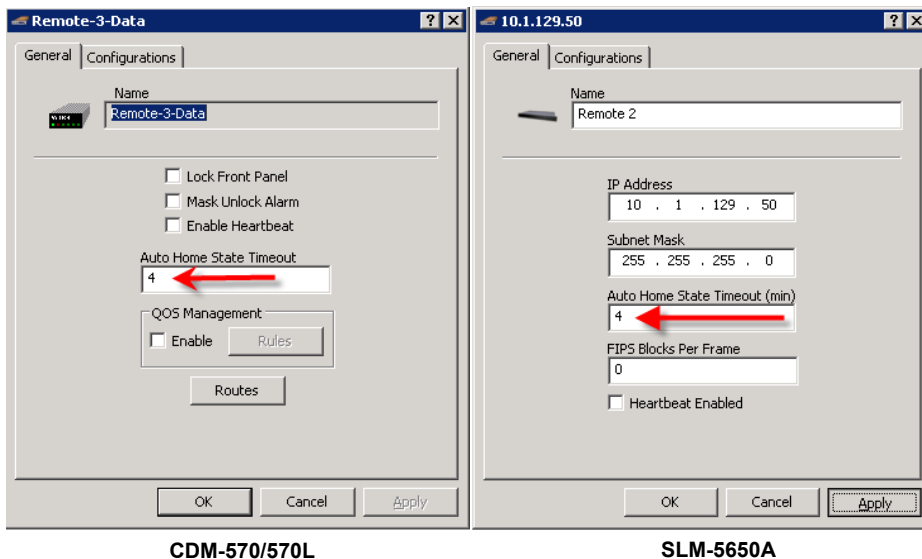

Figure 3-11 Auto Home State Timeout setting
1. From the VMS Tree View, right-click on each remote data unit (*not expansion units and never any hub units*) and open the **Properties** window (figure 3-11).